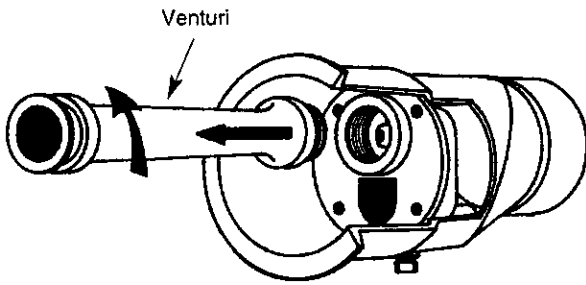

Figure 1
6. Remove venturi by unscrewing it (turn counterclockwise; see Figure 1).